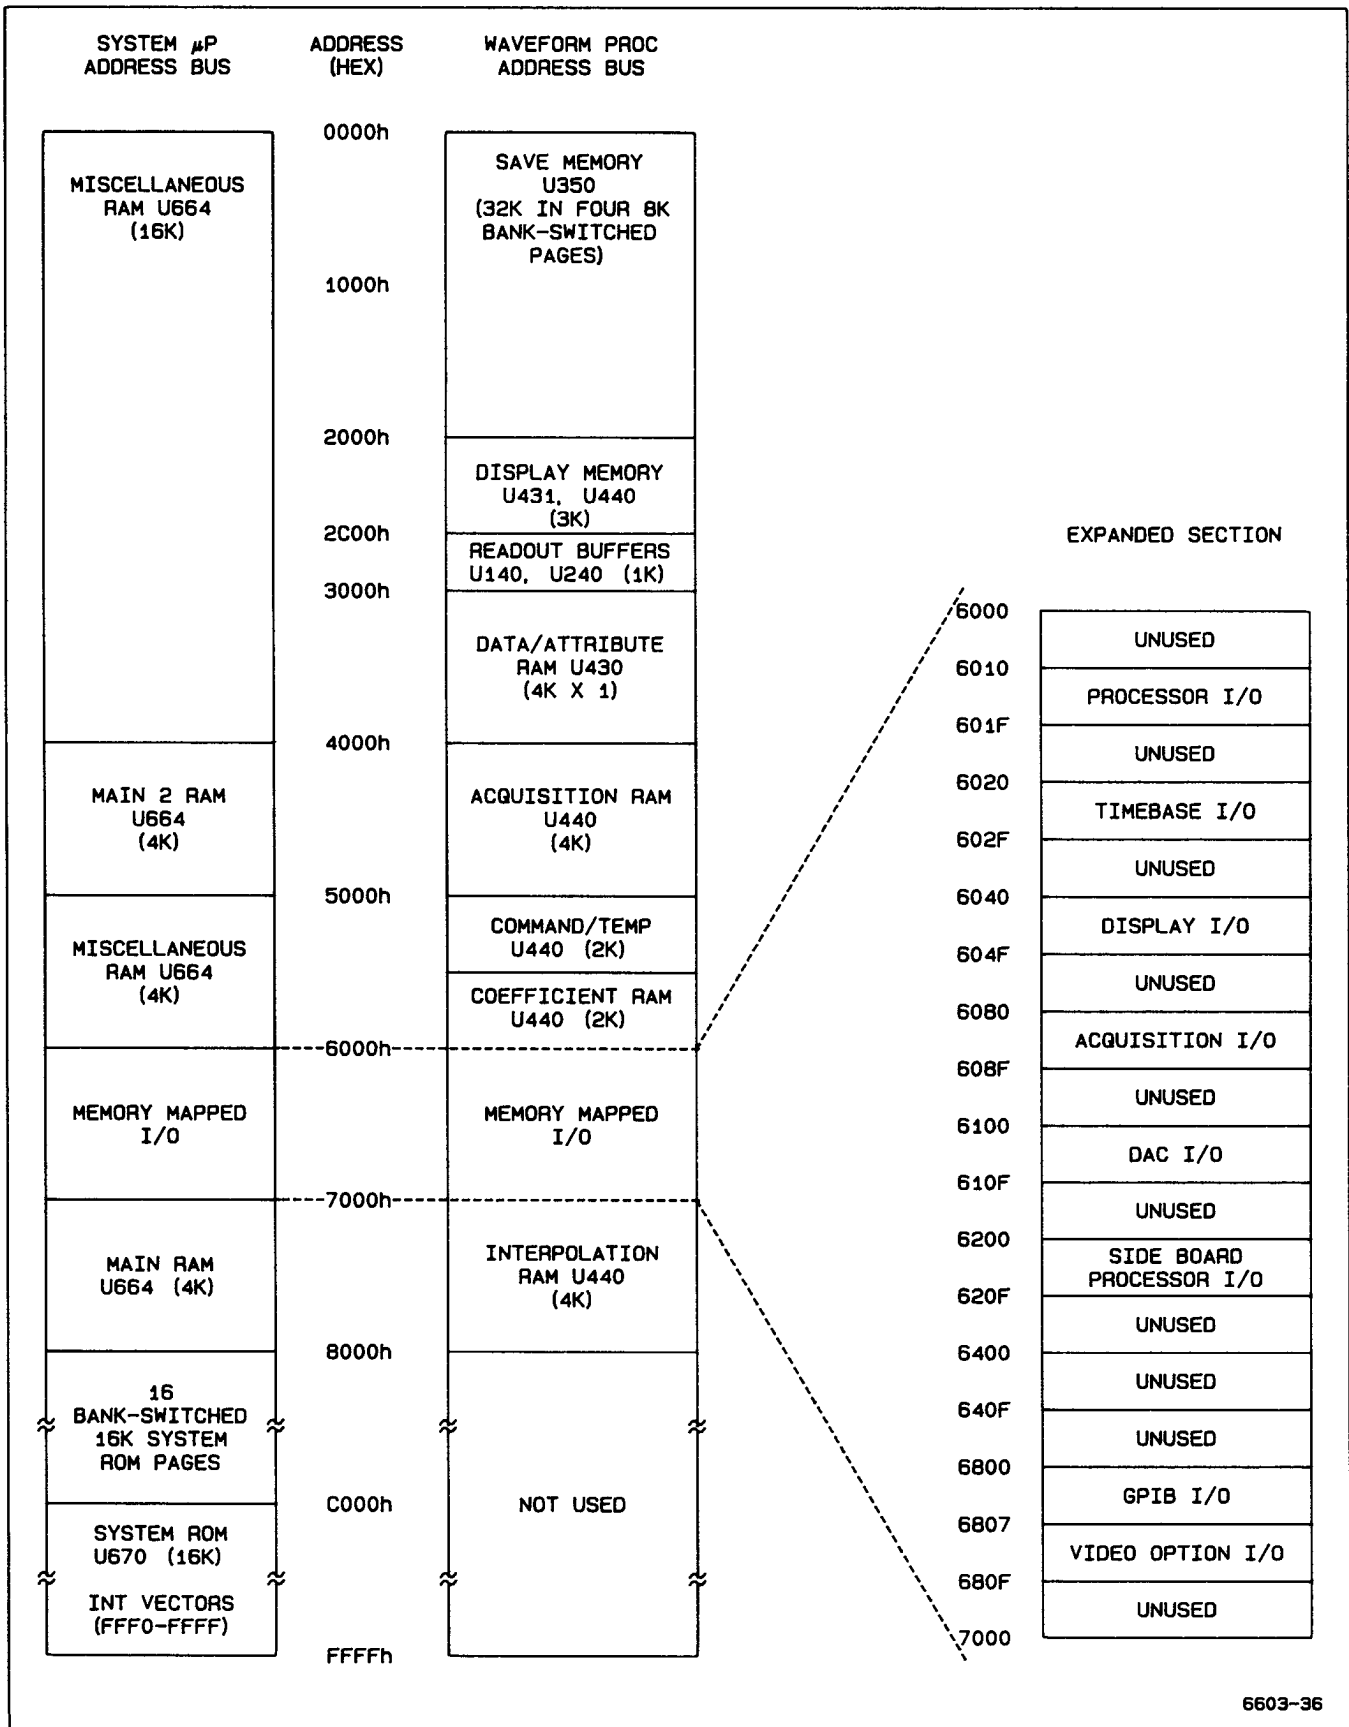

Figure 3-2. Simplified Memory Map
**MEMORY MAP.** Figure 3-2 is a memory map showing the different memory areas and the address blocks they occupy on the System Processor and the Waveform Processor Data Bus. Addresses output by the System Processor and/or the Waveform Processor access the memory indicated in the address block depending on how those addresses are decoded. Refer to Figure 3-2 as the address blocks are discussed (both here and later for the Waveform RAM).
Inverting buffer U830, enabled by  $\overline{\text{HMMIO}}$  for I/O operations, applies the inverted middle bits of the address bus to various functional modules as selects. The firmware routines will allow only one of these select bits to be set LO at a time. In the selected circuit, further address decoding is enabled. Figure 3-2 illustrates the System  $\mu$ P address memory map and shows the blocks assigned for memory-mapped I/O. Each of the memory-mapped I/O blocks consists of 16 consecutive addresses from 6000h to 7000h with various functions assigned to specific addresses. These functions include clocks, chip enables, and circuit enables. Each is explained in the descriptions of the circuits they affect.
Due to its architecture, the Waveform  $\mu$ P outputs different address blocks than those required to access the various memories on the Waveform Processor Data Bus (see Fig. 3-2). U366 selects either address bit DADC or DADB for output to address WAB of the Waveform Processor Data Bus, depending on the condition of its three most-significant address bits, DADC, DADE, and DADF. AND-gate U276B detects when these bits are all HI and outputs a HI to the “A” select input of the multiplexer. With the “B” select input held HI for all Waveform  $\mu$ P accesses by  $\overline{\text{BUSCONNECT}}$ , U366 routes DADB to address bit WB via address latch U562.
Decoding circuitry uses the signals WFRAM,  $\overline{MAIN}$ ,  $\overline{MAIN2}$ , and HMMIO; System-Address bits A3, A4, and AF; and BUSTAKE/BUSGRANT to determine when to enable U552 and connect the System Data Bus to the Waveform Data Bus. The addresses that produce accesses to the Waveform RAM (and require U552 to be enabled) are shown as are noted on the memory map, Figure 3-2. (Also, see “System Address Decode,” appearing earlier in this section.)